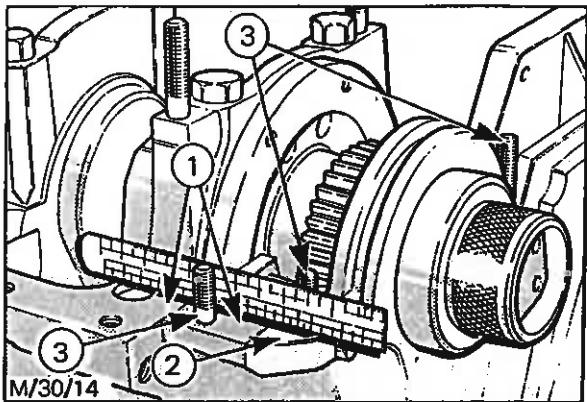

Fig. 53 - Timing Gear Housing and Cover Alignment (Left Hand Side on 2728T Engines)
30. On 2728T Intercooled engines, check the alignment of the lower face of the timing gear housing in relation to the lower face of the crankcase. Looking from the front of the engine in the inverted position, the faces on the left side must be flush, with the right side as near flush as possible or to within a maximum of 0,18 mm (0,007 in) misalignment either above or below the face - refer to Figs. 53 and 54.
Check that the three studs are secure - see Fig. 53. If new studs are fitted apply the specified sealant to the threads when screwing them into position.